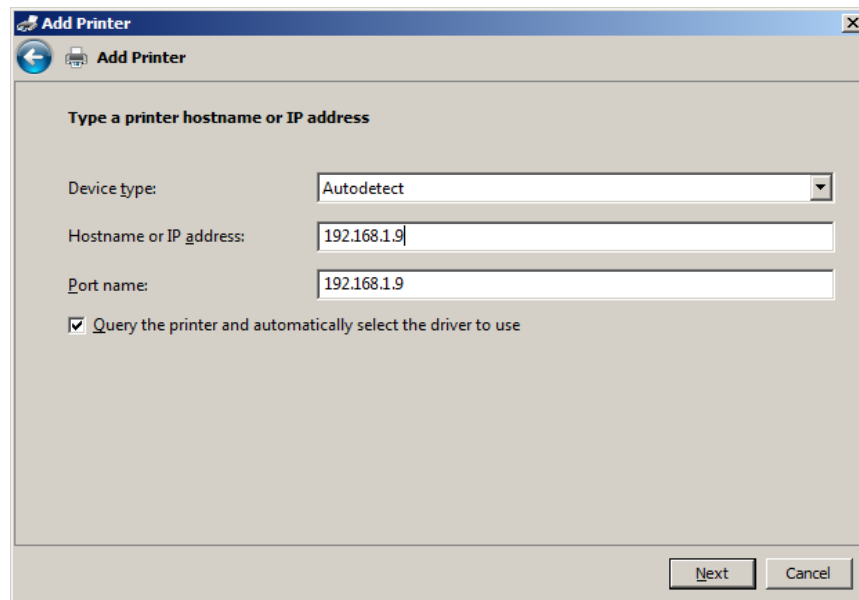

Figure 10.29 – Type a printer hostname or IP address
- 10) On the next window for Device Type: **choose Autodetect**. For Hostname or IP address enter the Hostname or IP address. For Port name should automatically fill in as you enter the IP address as shown below in Figure 10.29